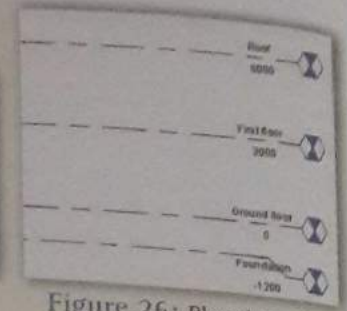

Figure 26: Placed levels
8. To change all other level to the created level type, select all levels and change the level type name from the type selector (Figure 26).